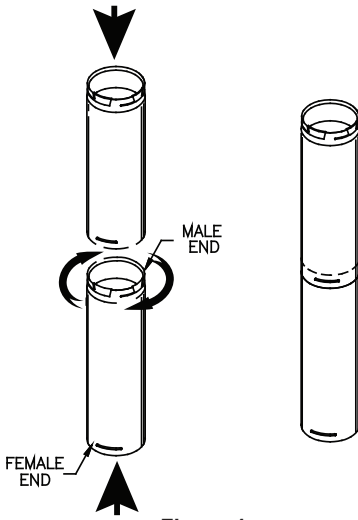
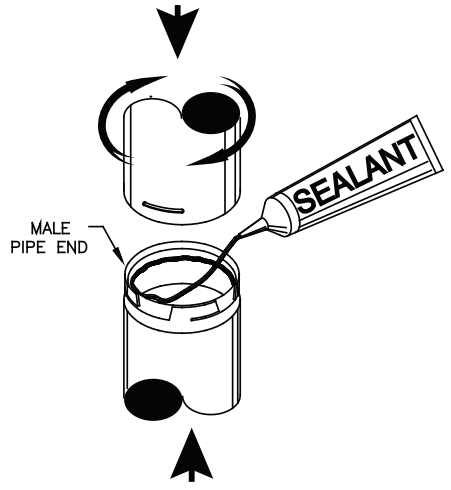

Figure 4
Figure 5
**D. Connect Pipe Sections.** Attach PelletVent Pro Pipe Sections by pushing male and female ends of pipe together and twisting until pipe is in locked position (**Figure 4**). PelletVent Pro pipe sections do not require any sealant; however in certain instances high temp silicone sealant may be used. Seal connection where the inner liners overlap for best results (**Figure 5**). Screws are not needed, but 1/4" screws can be used if desired, however, be sure you do not penetrate the inner liner.